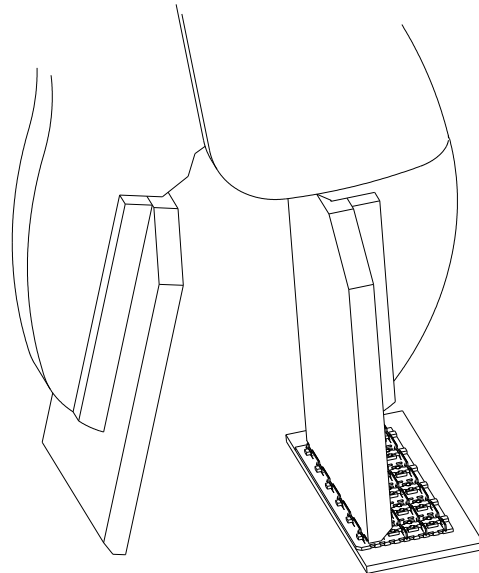

Figure 7
2. Line up the front plate of the tool with the row of contacts to be removed. Refer to Figure 7.